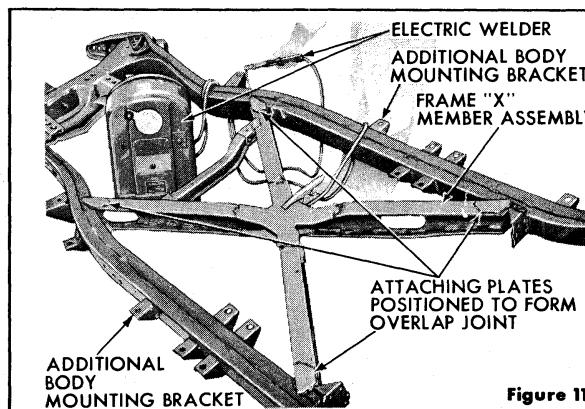

Figure 11
**OPERATION NO. 10:** Turn frame back to the upright position and locate the four "X" member to frame attaching plates so they form an overlap joint from "X" member to frame sub side rails (Fig. 11) and electric weld. Also complete the operation by welding "X" member to frame sub side rails vertically.
**OPERATION NO. 11:** Position the two additional body mounting brackets (Fig. 11) in locating slots in frame side rails and electric weld. Also position the engine rear support crossmember to "X" member (Fig. 11) and secure with the four bolts, lockwashers and nuts provided.